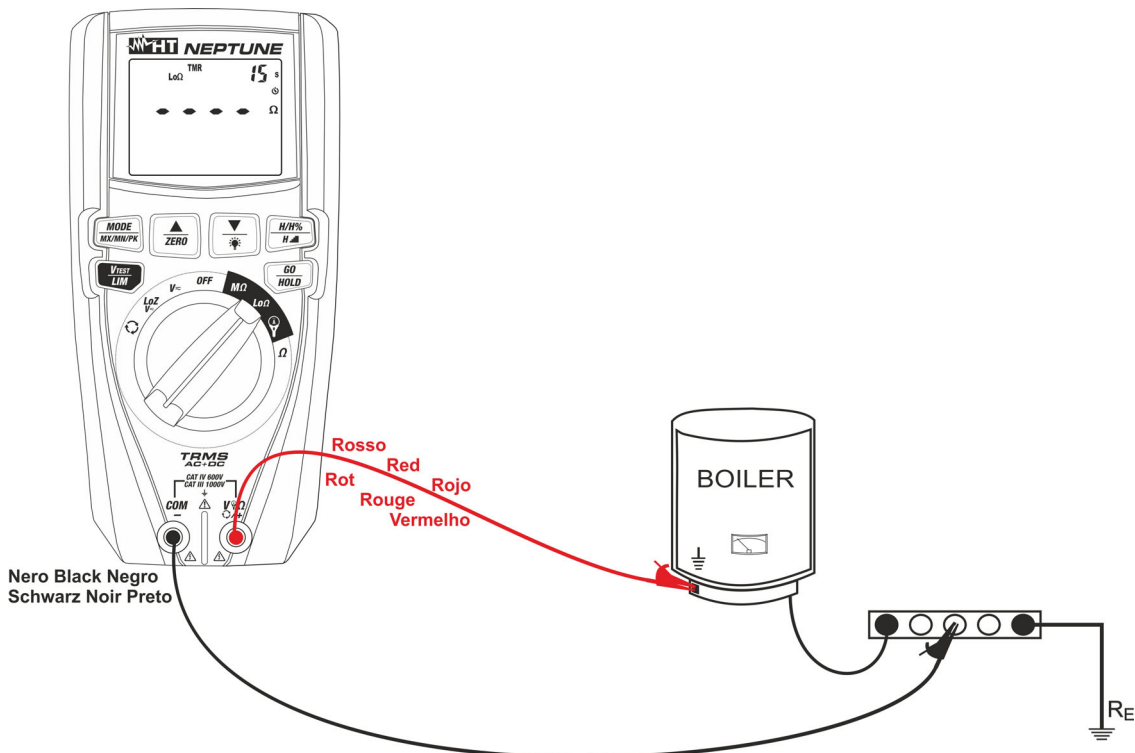

Fig. 29: Use of the instrument for continuity test in TMR mode
7. Insert the red lead into input terminal **V Ω +/+** and the black lead into input terminal **COM/-**, and connect the instrument to the system to be tested (see Fig. 29).